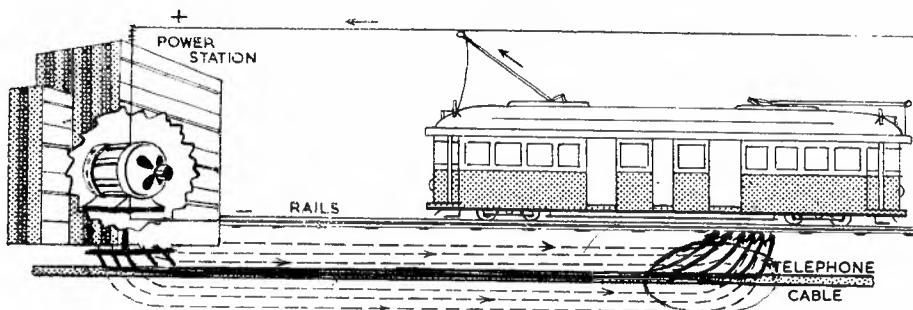

FIG. 2.
2. Mark on Fig. 2 the area where electrolysis of the Lead covered cable could occur.